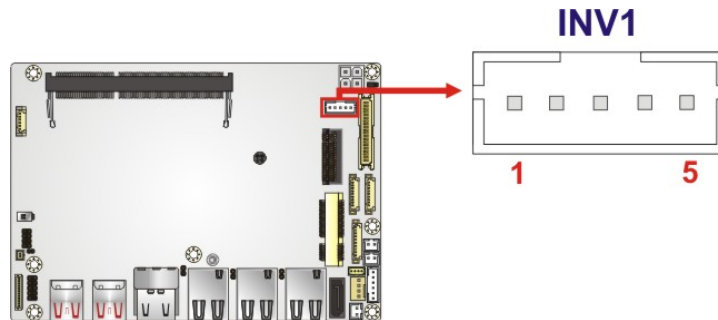

Figure 3-9: Backlight Inverter Connector Location
- CN Location:** See Figure 3-9